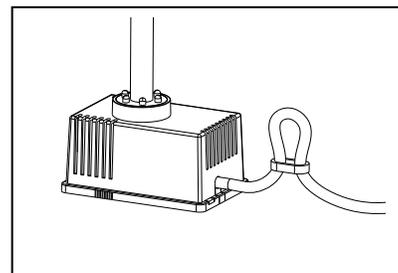

Fig. 11
11. Use the cord holder to tie a loop in the cord. This will help the pump stay in place. Fig. 11